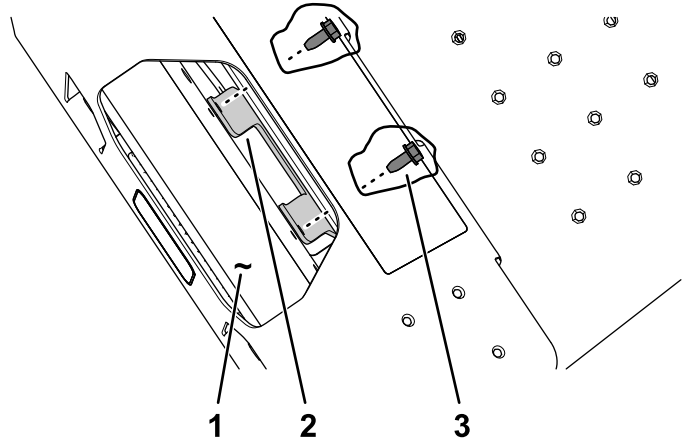

Figure 3
3. If you have a machine with a **standard platform**, install the front light bracket to the front axle tube using the 2 thread-forming screws (5/16 x 3/4) provided with the kit (Figure 3).